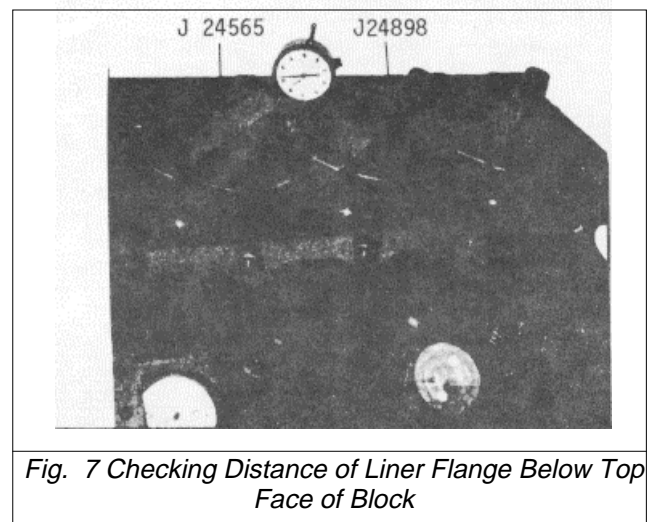

Fig. 7 Checking Distance of Liner Flange Below Top Face of Block
- (3) Push the cylinder liner into the cylinder block until the liner flange rests on the insert. Do not use excessive force to install the liner. The liner should slide smoothly in place with hand pressure.
- (4) Clamp the liner in place with hold-down clamp J 24565 as illustrated in Fig. 7 and tighten the two bolts to 50 ft/lb. (68 N.m) torque.
- (5) Measure the distance from the top of the liner to the top of the block with a dial indicator (Fig. 7). The liner flange must be .0418" to .0482" below the surface of the block. However, even though all of the liners are within these specifications, there must not be over .0015" difference between any two adjacent liners when measured along the cylinder longitudinal centerline. If the above limits are not met, install a different thickness